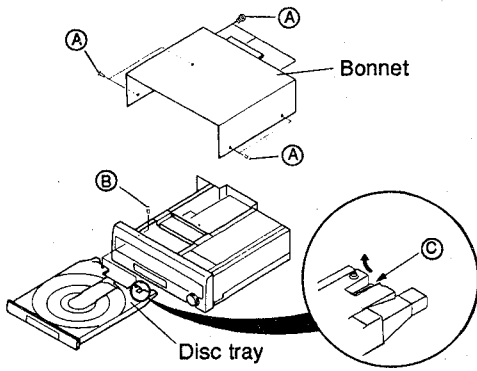

Fig. 1
1. Remove the 7 screws (A) that stabilize the bonnet and take off the bonnet. (Fig. 1)
2. Remove the 2 tray stopper screws (B) and press the OPEN/CLOSE button to put the tray unit in the open position. (Fig. 1)
3. While pushing the hook on the right rear of the disc tray (C) to the left, pull out the tray unit. (Fig. 1)